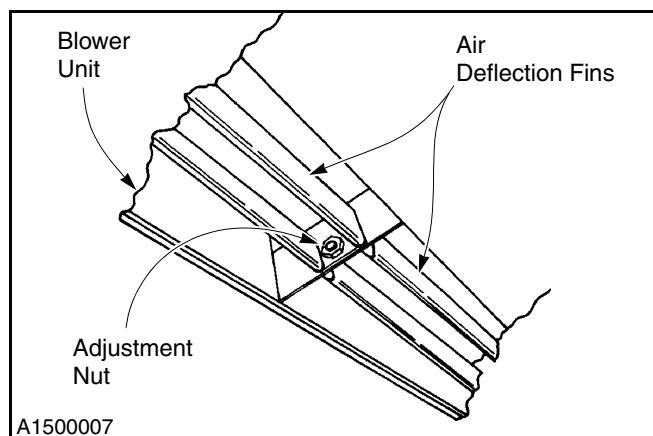

Figure 38
2. To redirect the airflow, loosen the nuts that lock the fins in place and reposition the fins. Tighten the nuts to lock in the adjustment. Then apply power. (See Figure 38.)